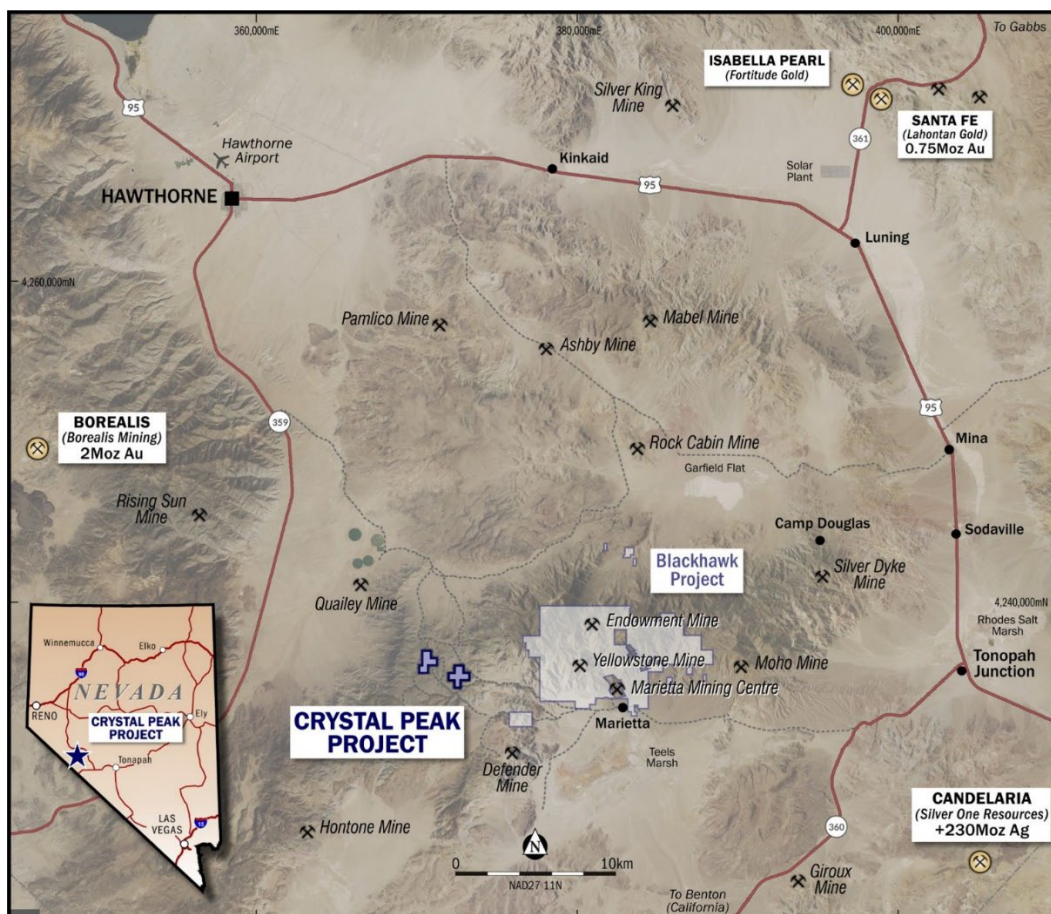

Figure 1: Plan view of newly staked Crystal Peak and G Mine prospects located 10km west of SNX's large-scale Blackhawk Porphyry and Epithermal Projects.
- In conjunction with ongoing work at its nearby Blackhawk Project, Nevada USA, SNX stakes two additional areas prospective for high-grade silver-gold-copper-antimony (see figure 1).
Sierra Nevada Gold (ASX: SNX) is pleased to announce it has staked two additional projects prospective for high-grade silver-gold-copper near existing projects in Nevada, USA. The new projects are 10km west of SNX's large-scale Blackhawk Porphyry and Epithermal Projects in Mineral County, SW Nevada (see figure 1).